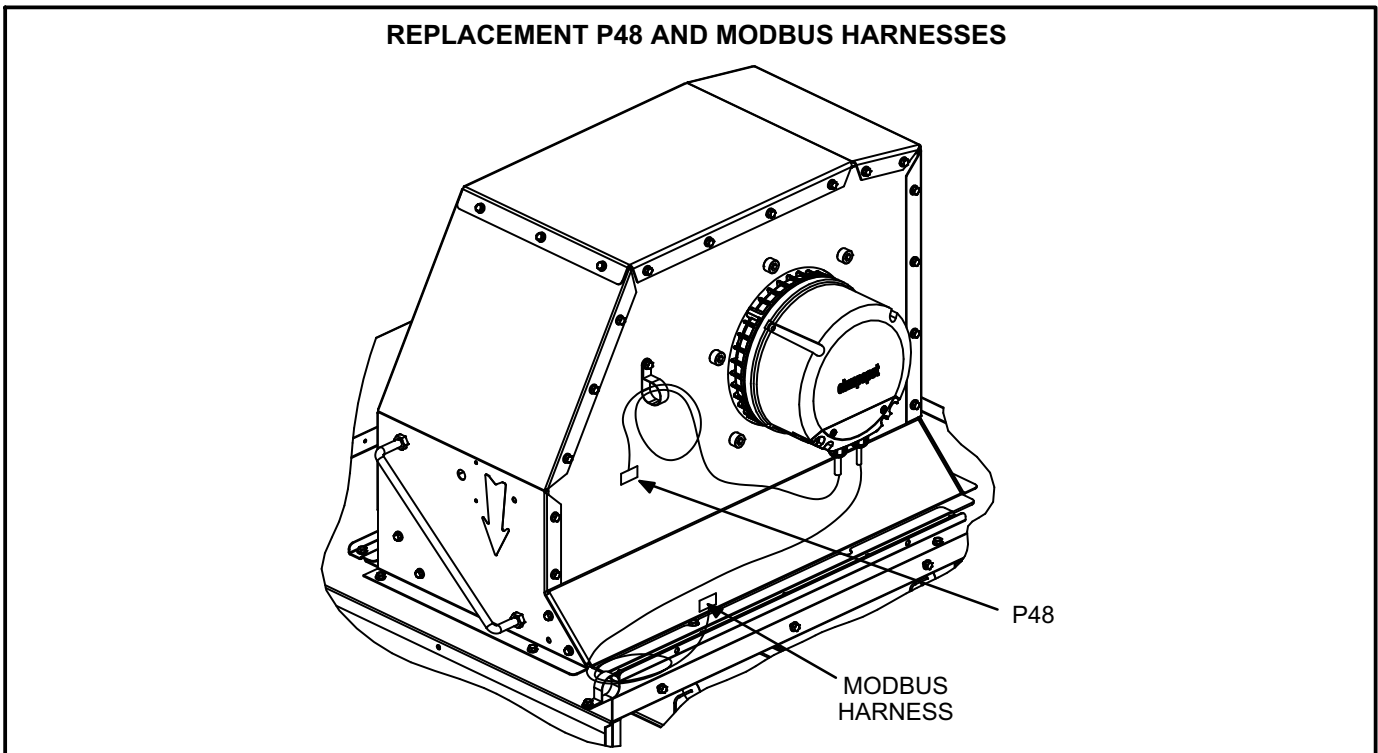

FIGURE 4
- 11- Uncoil P48 and Modbus 9-pin blower control wiring harnesses secured to replacement blower housing. See figure 4.